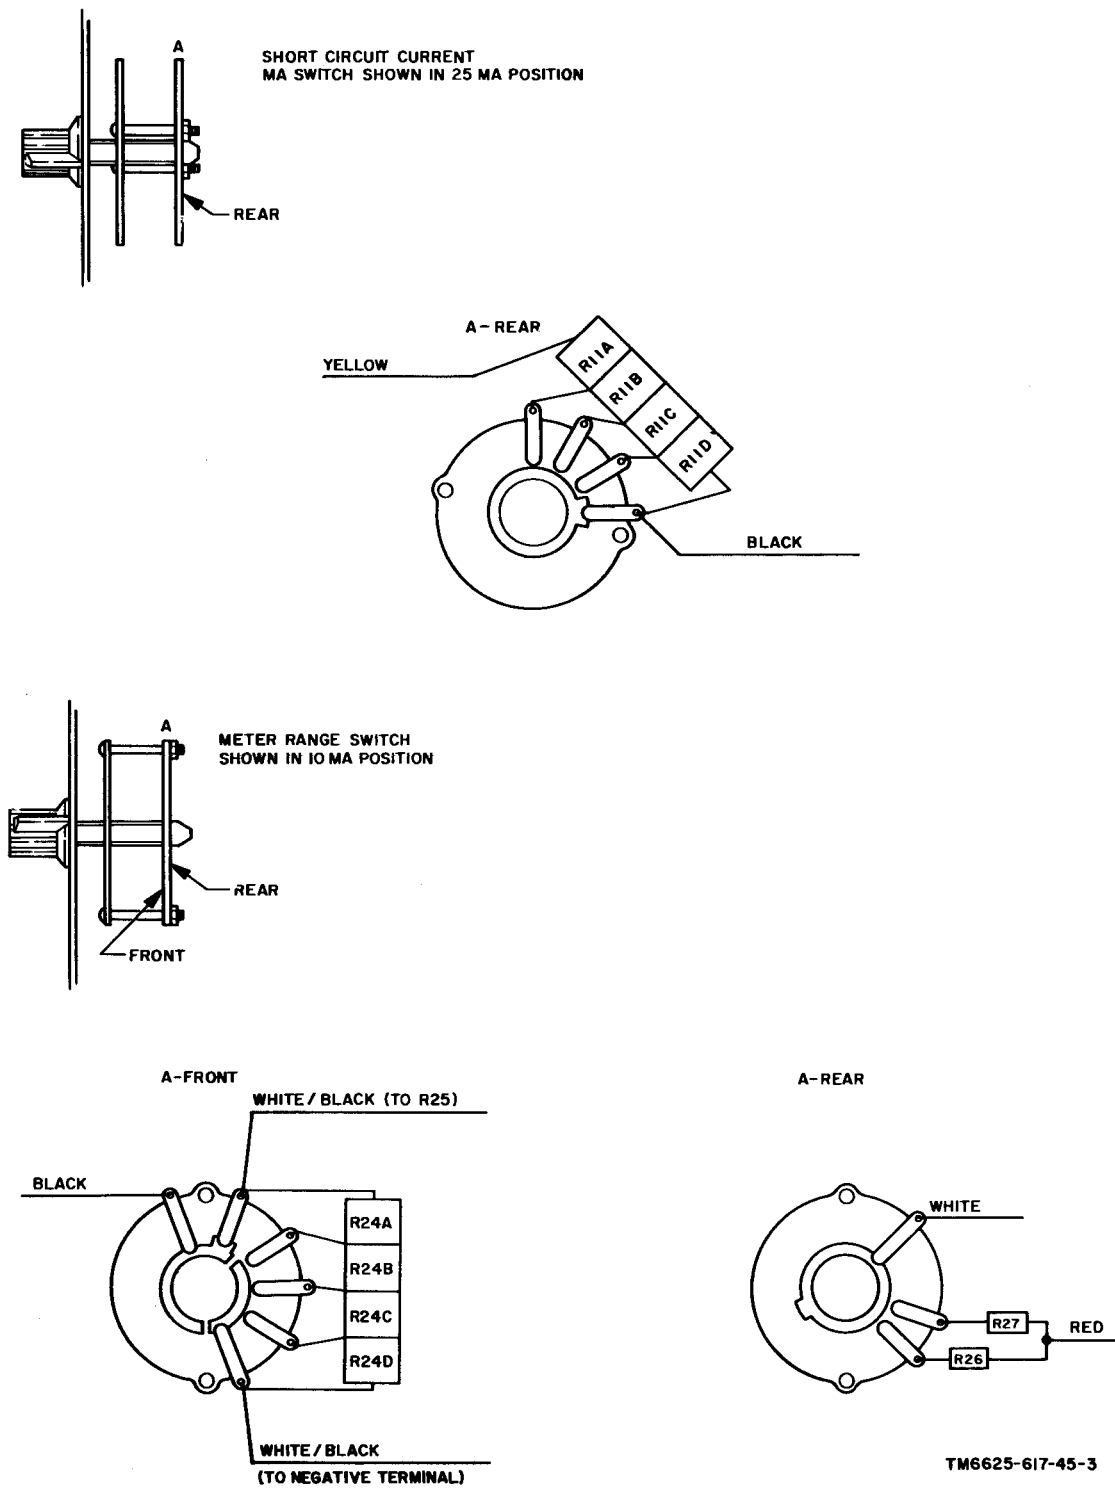

Figure 3-1. Power supply switch wiring diagrams.
- (1) Install the replacement switch in the chassis and solder the leads as shown in figure 3-1.
- (2) Replace the nut and washer on the switch shaft.
- (3) Replace front panel METER RANGE switch knob and replace the chassis in the case.